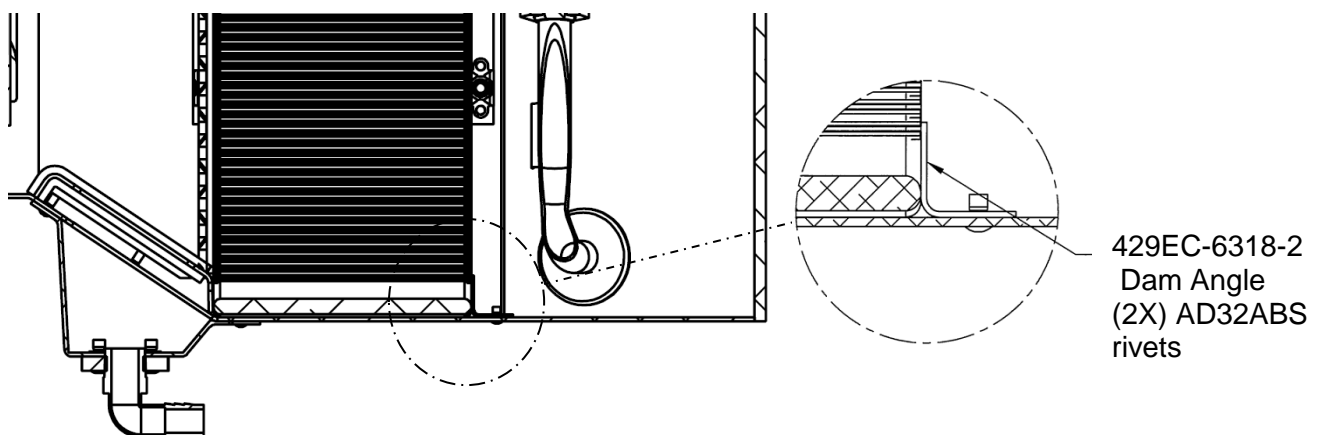

Figure 10: 429EC-6318-2 Dam Angle installed against Evaporator Coil
- 9) Wet install 429EC-6318-2 dam angle as shown against evaporator coil using RTV103 black silicone rubber adhesive sealant. Match drill $\varnothing.098$ and fasten with (2X) AD32ABS rivets. Ensure that holes are not covered in bend. (Figure 10 & 11)